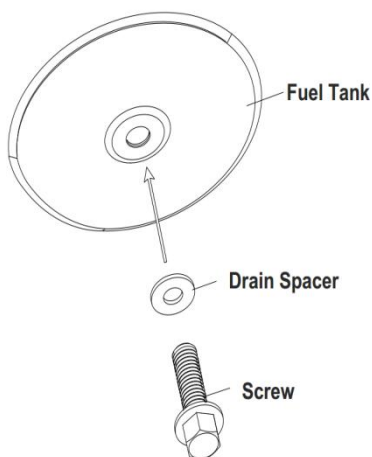

Fig.7 Drain Plug Reinstall
4. To replace, push the drain head fully into the drain hole and secure by pushing the seal cap fully into the head hole (see Fig.7)